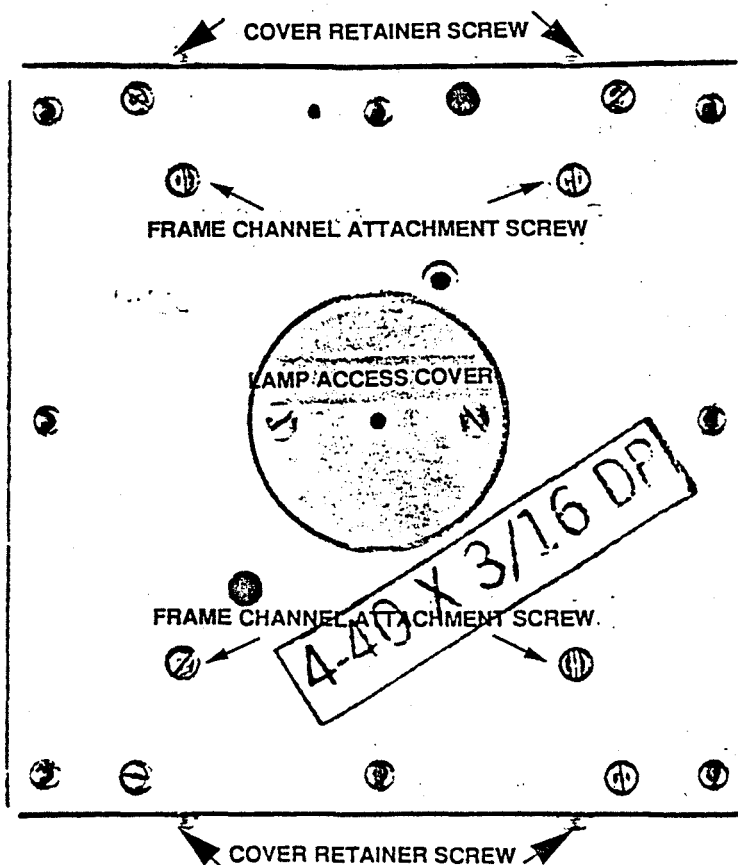

Figure 4-4. FRK Baseplate
- (1) Detach the cover from the FRK assembly by removing two 2mm screws on the connector face of the unit, then remove four 2mm screws that hold the bottom of the cover to the baseplate (see Figure 4-4). Once all six retaining screws are removed, hold the baseplate while gently pulling on the cover (it may be necessary to move the cover slightly from side to side as the FRK internal assembly is removed from the case).
- (2) Remove any of the outside PCB assemblies by removing the M2x6 screws that fasten the boards to the FRK frame at each corner (the servo and synthesizer boards have additional screws that must also be unfastened).
- (3) Once the mounting screws are removed, label all wires and coax (shielded wire) connections, and then remove each one (a soldering iron is required).
- (4) Disassemble the baseplate of the FRK by removing the lamp inspection cover and all other screws on the outside face of the baseplate. This frees the baseplate from the frame.